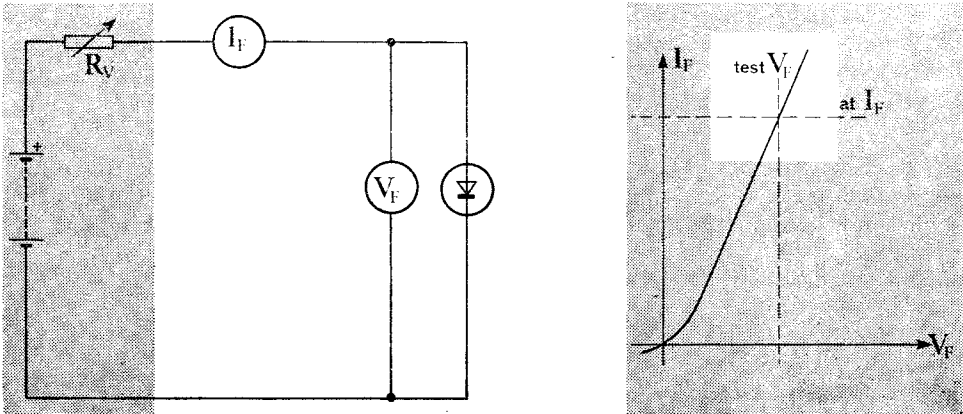

Fig. 5 Testing forward voltage drop of a conducting diode
20. **Forward bias tests.** Because the ohmmeter tests for forward resistance do not drive the diode into full conduction they do not give an accurate indication of its circuit performance. The basic test circuit of figure 5 can be used to drive the diode to its working current. Initially the variable resistor is set to its full value to protect the ammeter if a short-circuited junction is present. The current is then *carefully* increased to the test value given in the manufacturers specification. The voltage drop across the diode is then shown on the voltmeter V_F and can be